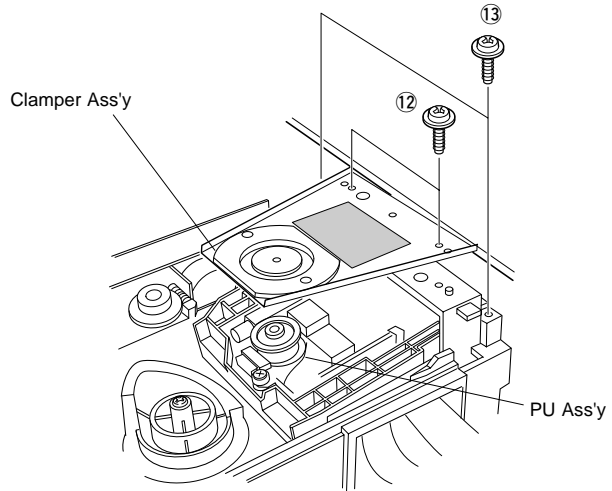

Fig. 7
Remove 2 screws ( ⑫ ) in Fig. 7.
- a. Remove 2 screws ( ⑬ ) in Fig. 7.